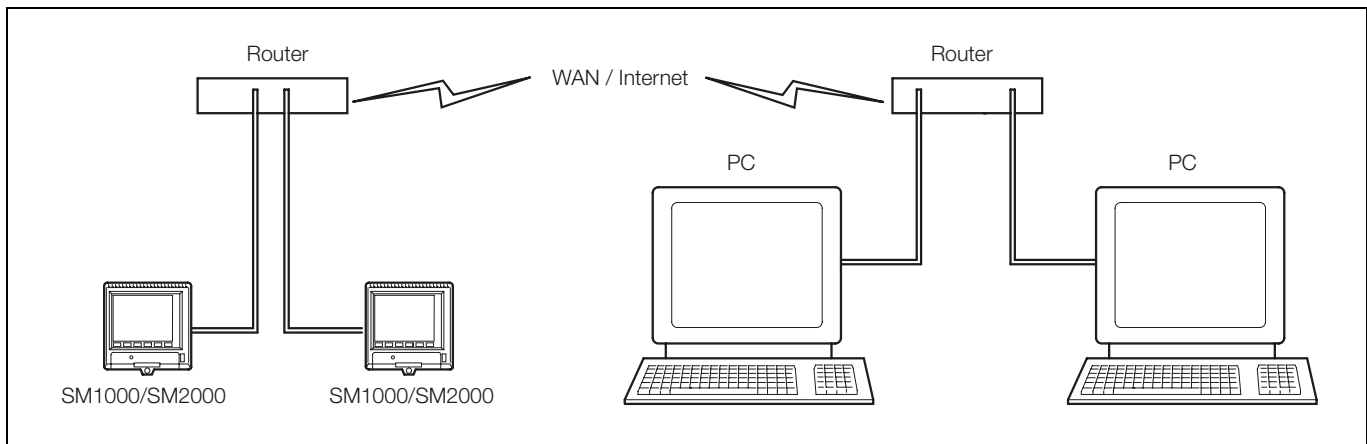

Fig. 2.5 Connection to a Dial-Up Router
- Connection to a dial-up router – see Fig. 2.5
2.4 Connection to a Dial-Up Router – Fig. 2.5